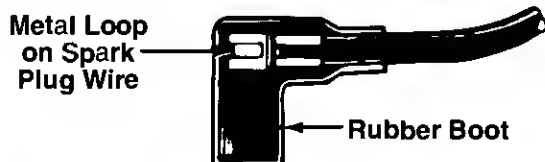

FIGURE 8.
1. Attach spark plug wire to spark plug. Make certain the metal loop on the end of the spark plug wire (inside the rubber boot) is fastened securely over the metal tip on the spark plug. See figure 8.